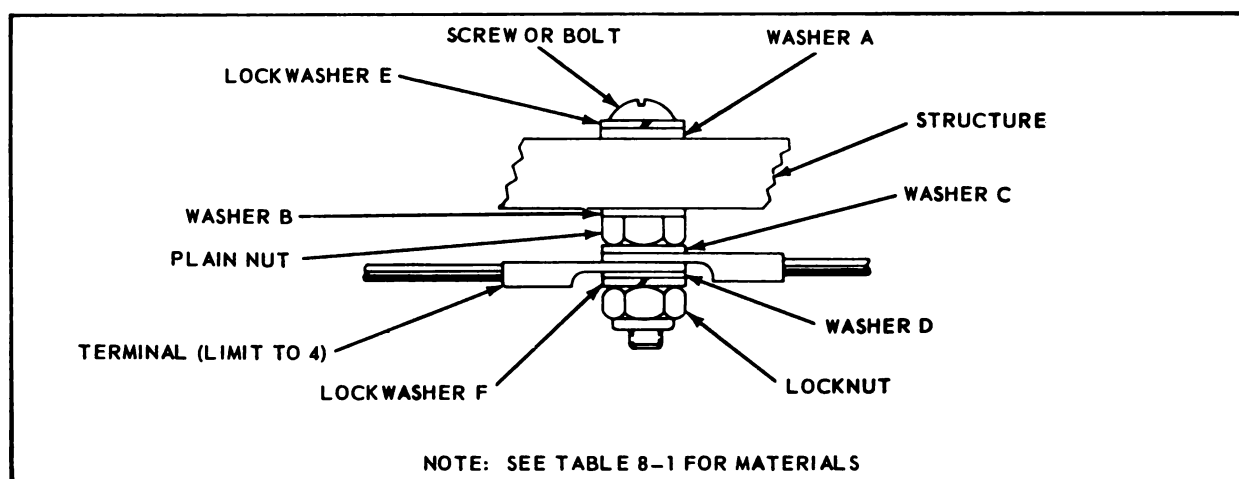

Figure 8-1. Stud Bonding or Grounding to Flat Surface
(Refer to figure 8-1)
8-10. SELECTION OF NUTS. Use AN nuts, either plain or self-locking where indicated in figures 8-1 and 8-3. Use an all-metal self-locking nut if practicable. Always use an all-metal self-locking nut where current is, or will be present. Where installation conditions require, use an AN nut-plate, riveted to structure.
8-11. SELECTION OF WASHERS. Use AN plain washers and split lockwashers where indicated in figures 8-1, 8-2, 8-3. Always use split lockwashers with nuts, either plain or self-locking. With aluminum terminals use a plain washer of at least the diameter of the terminal tongue, next to the aluminum terminal. If an AN washer does not meet this requirement, use a washer of the SAE heavy series, or a special washer made for this application.
- a. Stud connection: (See figure 8-1 and table 8-1) In this type of connection a bolt or screw is locked securely to structure, thus becoming in effect a stud. Grounding or bonding jumpers can be removed or added to the shank of stud without removing stud from structure.